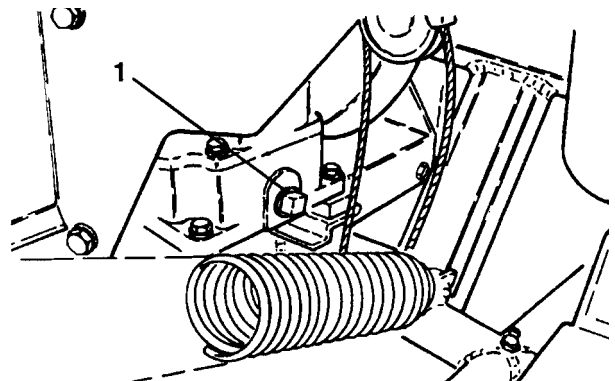

Figure 35
2. If only the filter is to be changed, remove the reservoir cap and insert the reservoir plug (Fig. 35), to the block outlet.